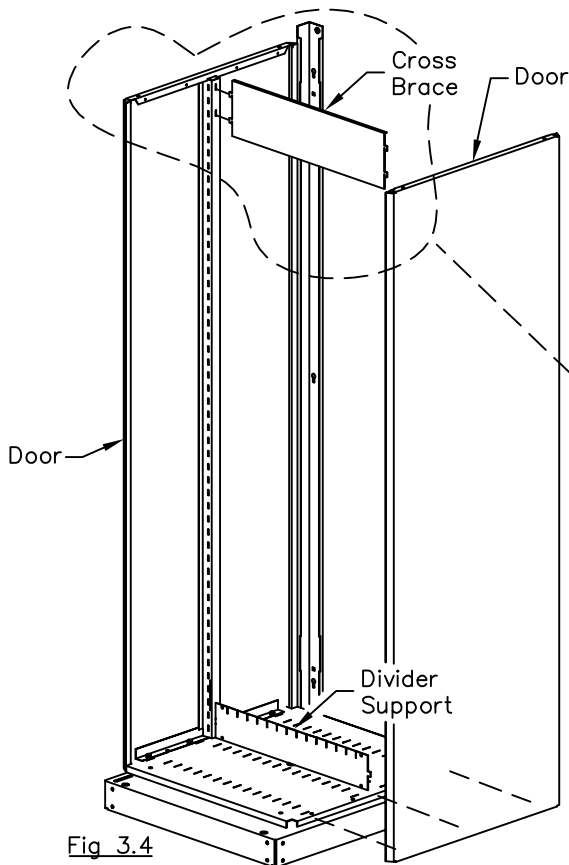

Fig 3.4
Insert the Cross Brace into the slots shown. The tabs on the cross brace should be pointing toward the floor. (Fig. 3.3) Slide the second door onto the bottom swivel pan. Verify that tab of divider support and tabs of cross brace are properly seated into the second door. (Fig. 3.4) Screw door into place using (4) 1/4-20x1/2" Pan Head Screws. Tighten all screws on doors.